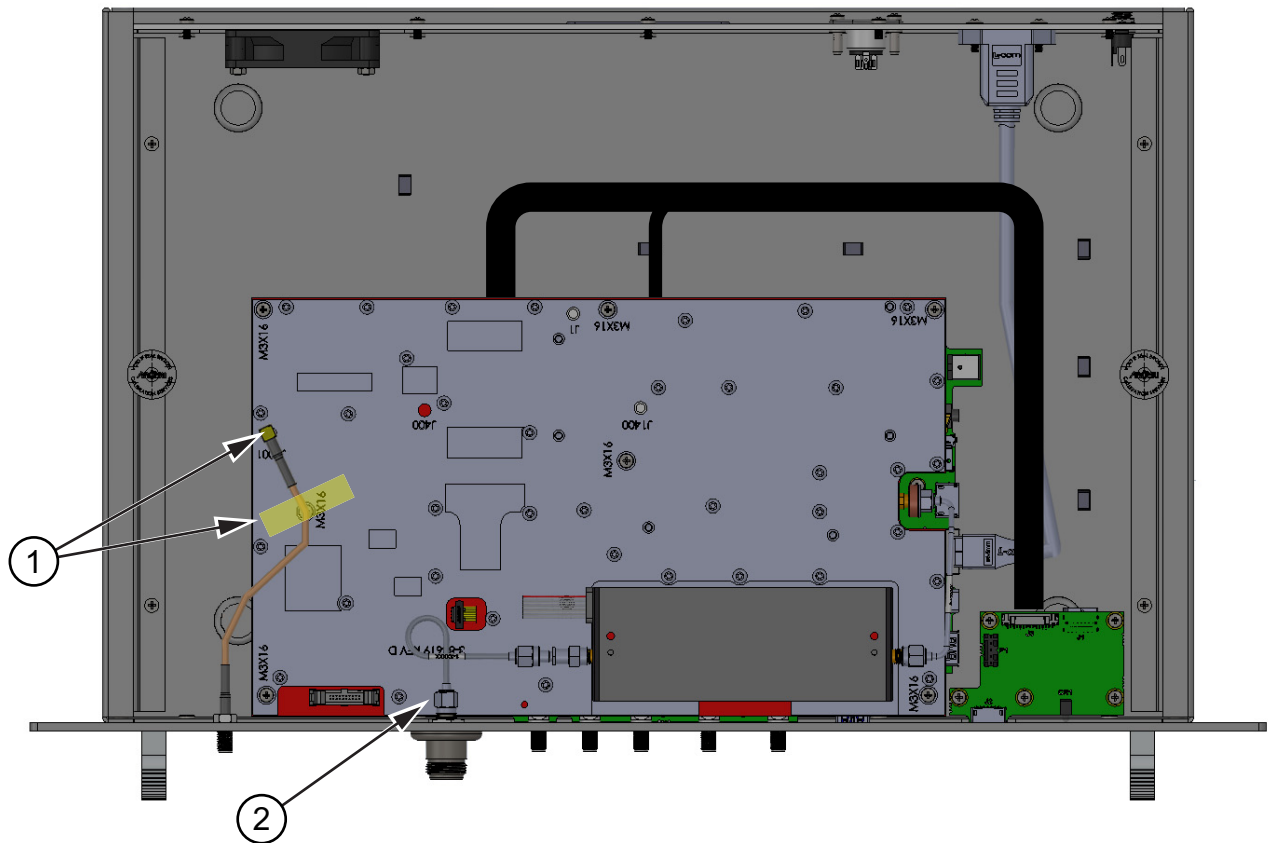

Figure 3-2. VSA Cables Removal
2. Remove the Kapton® tape and then disconnect the SMP cable from the VSA, shown at location 1. See Figure 3-2.
3. Use a 5/16" wrench to loosen and disconnect the semi-rigid cable located at the rear of the RF Input adapter shown at location 2. See Figure 3-2.
When reinstalling the front panel, it is important that the semi-rigid cable is torqued with the required torque spec using the Torque wrench shown at location 2. See Figure 3-2.